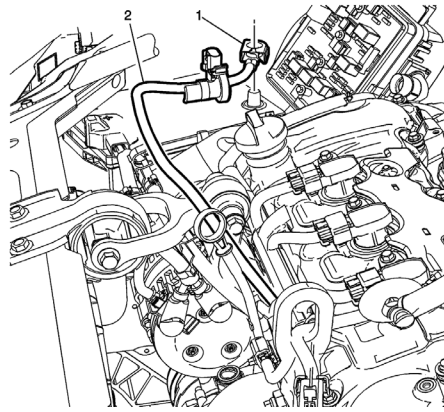

Fig. 1 Battery ground post clamp removal
1. Remove battery ground post clamp (1) from battery and position battery ground cable (2) aside, **Fig. 1**.
10. Install battery ground post clamp (1) to battery ground post and **torque** to 89 inch lbs., **Fig. 1**.